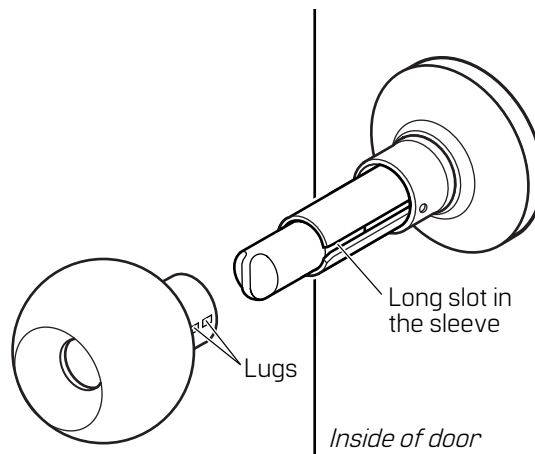

Figure 3.3 Reinstalling the non-keyed knob
1. Align the two lugs (dimples) in the knob with the long slot in the sleeve, as shown in Figure 3.3.